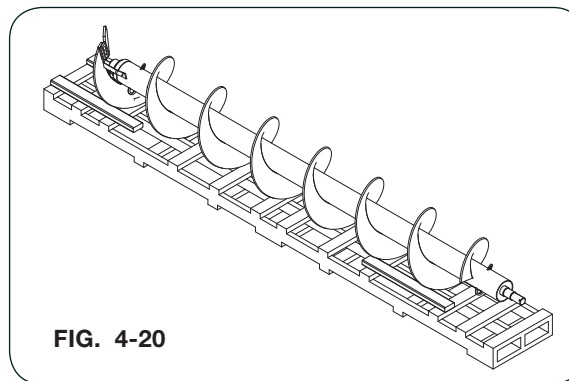

FIG. 4-20
NOTE: The replacement auger is factory balanced. Remove entire auger from shipping crate and secure from rolling. The upper auger assembly is pictured in FIG. 4-20 for reference.
9. Using an adequate hoist and slings with a minimum capacity of 2,000 lbs. to support the upper auger, install upper auger into the tube. (FIG. 4-20)